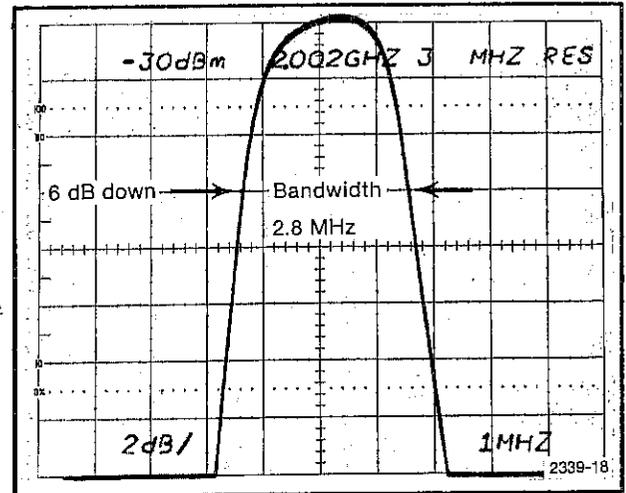

Fig. 4-4. Display Mode Log.
c. Measure the 6 dB bandwidth (see Fig. 4-4). Bandwidth must equal 3 MHz ± 600 kHz.